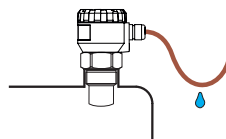

Fig. 12: Prevention to avoid intrusion of humidity
- It is suitable to run the cable under a cable bushing (obliquely down in slack) according to Fig. 12 to prevent **penetration of humidity**. Then the rain and condensing water can flow off freely.